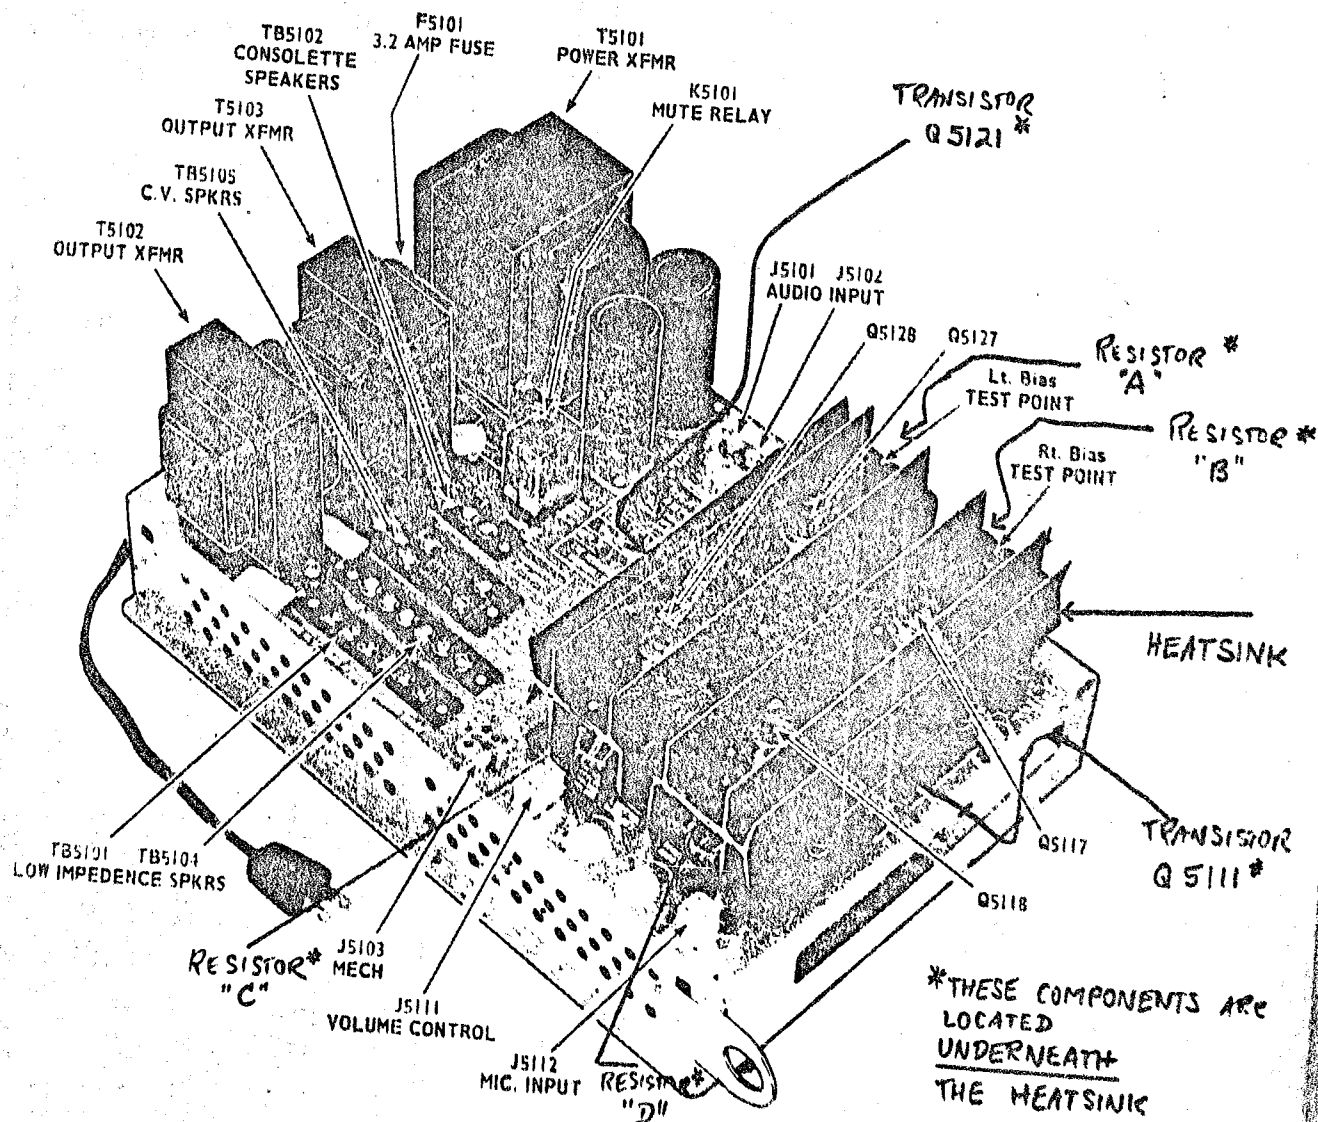

Figure 9. Top View of AMPLIFIER
1. Remove output transistors (refer to Figure 9, "Output") and test as shown in Figure 3A.
3. With your ohmmeter on the X1 scale position measure resistors A,B,C, and D. These are located underneath the heatsink on which the output transistors are mounted (refer to Figure 9). For access, remove the two screws holding the heatsink into place. These resistors will have a value of 0.2 ohms (most meters will read a short). Any reading larger than this indicates an open resistor, which must be replaced.
The adjustments for "Quiescent" (i.e. bias, meaning: no signal) currents in the output transistors of SHP amplifiers are similar, however, the voltage readings we are looking for are much smaller; for this reason a very sensitive meter capable of reading a voltage of 10 millivolts or less is needed. Figure 15 illustrates the procedure (refer also to Figure 9).